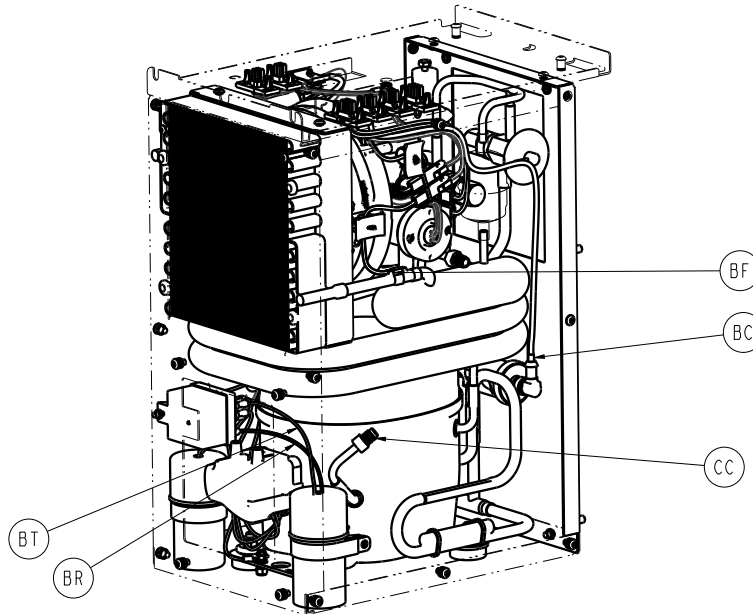

Figure 26 – Refrigeration temperature probe
4. Using a utility knife remove the insulation and tape around the refrigeration temperature probe (BF) Figure 26.